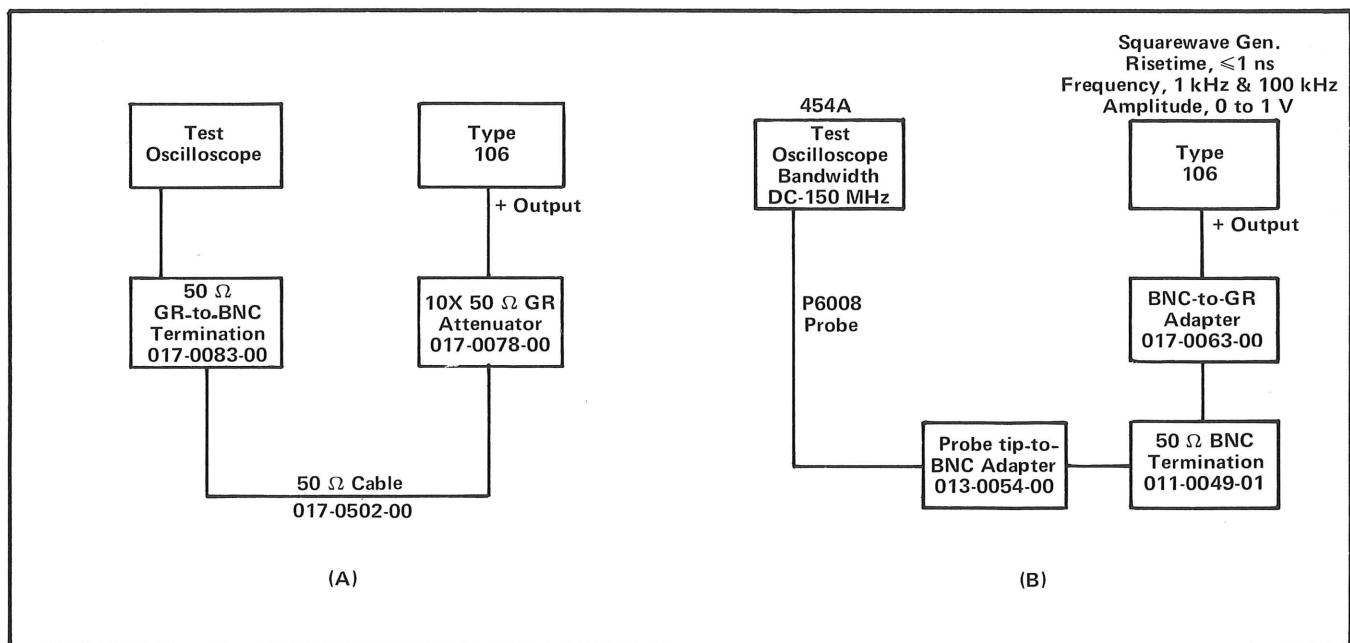

Fig. 4-1. Equipment connections for step 2.
The following outlines the calibration procedure for the P6008 Environmental Probe. Equipment and test fixtures required are indicated in Fig. 4-1.
a. Connect equipment as shown in Fig. 4-1(A).
e. Remove the cable, attenuator, and termination from the square wave generator and the test oscilloscope. Connect the probe, etc. as shown in Fig. 4-1(B).